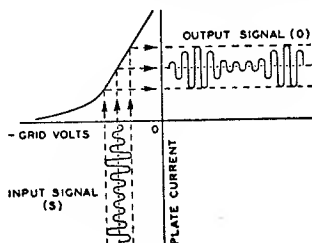

Fig. 13
As a **class A voltage amplifier**, a radio tube is used to reproduce grid voltage variations across an impedance or a resistance in the plate circuit. These variations are essentially of the same form as the input signal voltage impressed on the grid, but of increased amplitude. This is accomplished by operating the tube at a suitable grid bias so that the applied grid-input voltage produces plate-current variations proportional to the signal swings. Since the voltage variation obtained in the plate circuit is much larger than that required to swing the grid, amplification of the signal is obtained. Fig 13 gives a graphical illustration of this method of amplification and shows, by means of the grid-voltage vs. plate-current characteristics curve, the effect of an input signal (S) applied to the grid of a tube. O is the resulting amplified plate-current variation.